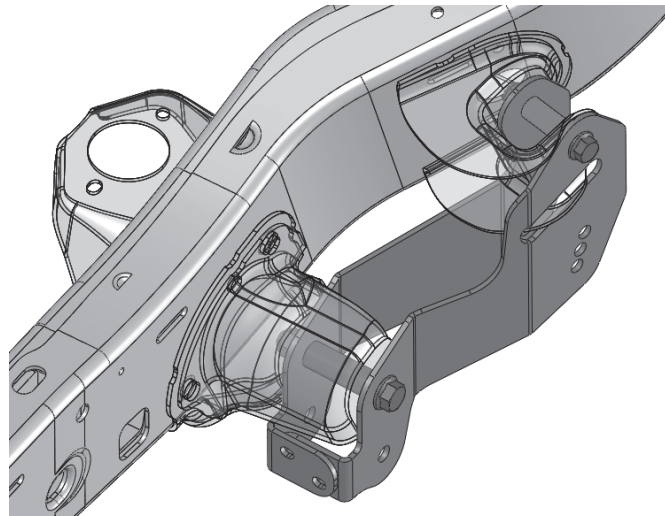

Figure 1
4. Install the brackets as shown (Fig. 1). Use the factory hardware and supplied spacers (which will fill the void for the control arms) in the original control arm mounting locations.